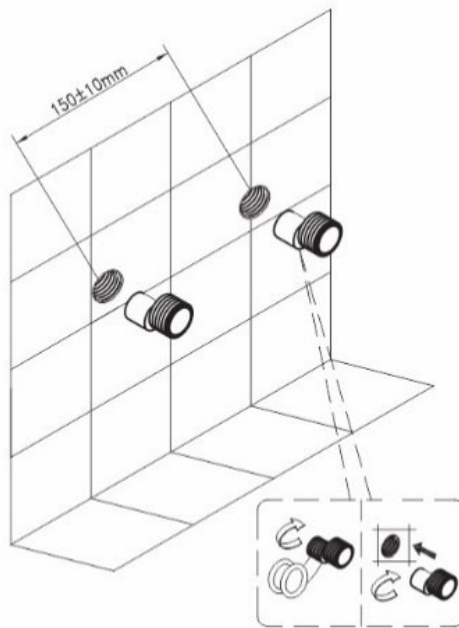

Figure 6
3. Screw the S-connectors transitions into the outlets of the water supply system pipelines, having sealed the threaded part with insulating material and ensuring a distance of 150 mm between the S-connectors axes. The position of the faucet should be horizontal (Figure 6).